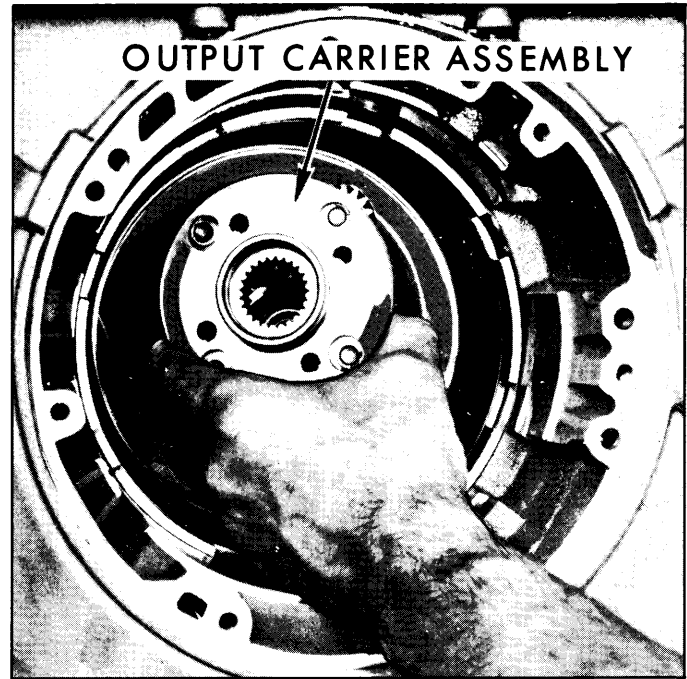

Fig. 7-43—Removing Output Carrier Assembly
11. Remove output carrier assembly. (Fig. 7-43)